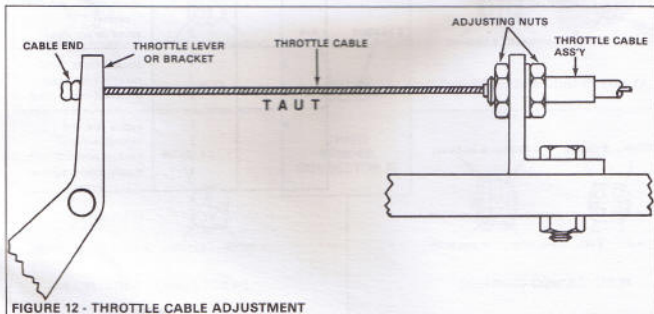

FIGURE 12 - THROTTLE CABLE ADJUSTMENT
1. Install two mounting screws and reconnect the potentiometer (7) electrical connector. Mounting screw torque not to exceed 125 inch pounds.
2. Reconnect the air line to the cylinder body (8).
3. Reconnect the cable nut to the piston rod assembly (1). Torque not to exceed 100 inch pounds.
5. Reconnect the cable assembly at the engine throttle lever or linkage bracket. Using the adjusting nuts shown in Figure 12, adjust the throttle cable so that it is taut when the accelerator pedal is released. Cable nut torque not to exceed 175 inch pounds.